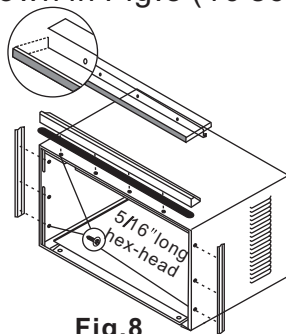

Fig.8
2. Install top angle and side retainers to cabinet as shown in Fig.8 (10 screws).